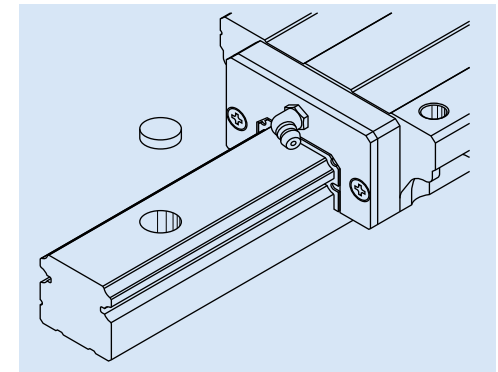

Fig. 7.4
(3) Bolt-hole cap to plug the bolt holes for rail mounting
- After the rail is mounted to the machine base, a bolt-hole cap is used to plug the bolt hole to prevent foreign matters from clogging up the hole and from entering into the slide (**Fig. 7.4**).